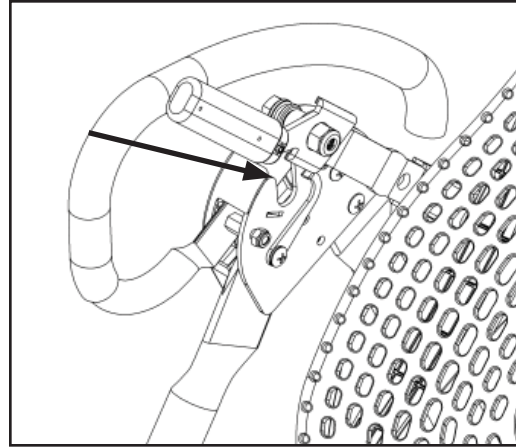
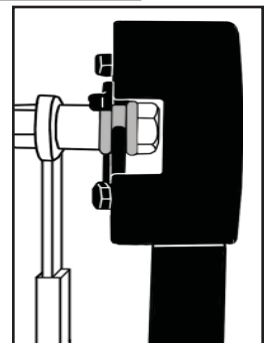

Figure 7
Figure 9
- Holding each side near the Roller Hinges, pick up the Table Bed and stand at the front of the A-frame where the Crossbar is located. Lower each Pivot Pin into the A-frame hinge plates one at a time (Figure 7). You may need to push outward on the A-frame in order to slide the second Pivot Pin into the hinge. Figure 9 shows the correct placement of the Pivot Pin into the hinge plate.
- Make sure that both Pivot Pins are seated at the base of the slot in the hinge plate. Check to make sure that the self-locking hooks have closed over both Pivot Pins (Figure 9), and the table rotates smoothly.